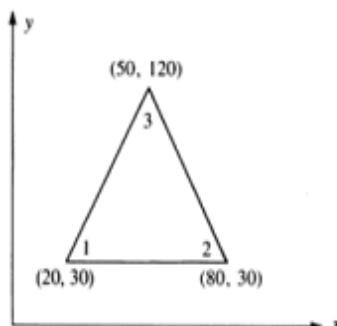

Figure-9
- (b) Evaluate strain-displacement matrix of the CST element of *figure-9*. The coordinates are given in units of millimeters. Let $E = 210 \text{ GPa}$, Poisson's ratio $= 0.25$ and plate thickness $= 10 \text{ mm}$. 04